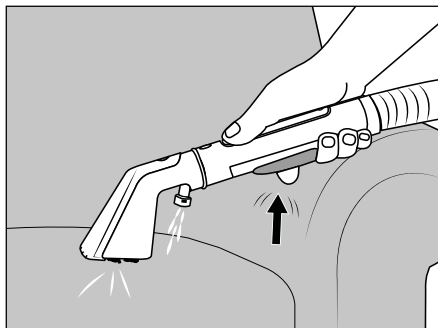

Fig. 6
(2) Before cleaning, check the upholstery / carpet manufacturer's label for special care instructions. The appliance is not suitable for sensitive textile fabrics (e.g. silk, leather, flokati).
(3) When using cleaning agents (vinegar-based cleaners and upholstery cleaning agents), always test how the appliance performs on an unobtrusive spot to ensure that no discoloration occurs.
(4) The appliance must be properly assembled before operation, and the fresh water tank ②  must be filled.
(5) Switch off the appliance before swapping the upholstery nozzle ㉒ and crevice nozzle ㉓.
(6) If the dirty water tank ⑦  is full, the float ⑥ closes the suction opening and the appliance runs at increased speed. Switch off the appliance immediately (see section 7.1. **Cleaning the dirty water tank**).
- ◆ Fold the carrying handles ⑩ upwards and carry the appliance to the place where you need it.
- ◆ Remove the spray/suction hose ⑩ from the hose holders ⑮/⑯.
- ◆ Slide the hose holder ⑮ into the appliance.
- ◆ Hold the spray/suction hose ⑩ by the handle.
- ◆ Press the On/Off button  ⑨ to switch on the appliance.
- ◆ Hold the upholstery nozzle ㉒ 2-3 cm above the area to be cleaned and press the spray button ㉔ to apply water / cleaning solution from the spray nozzle ㉕ (see Fig. 6).